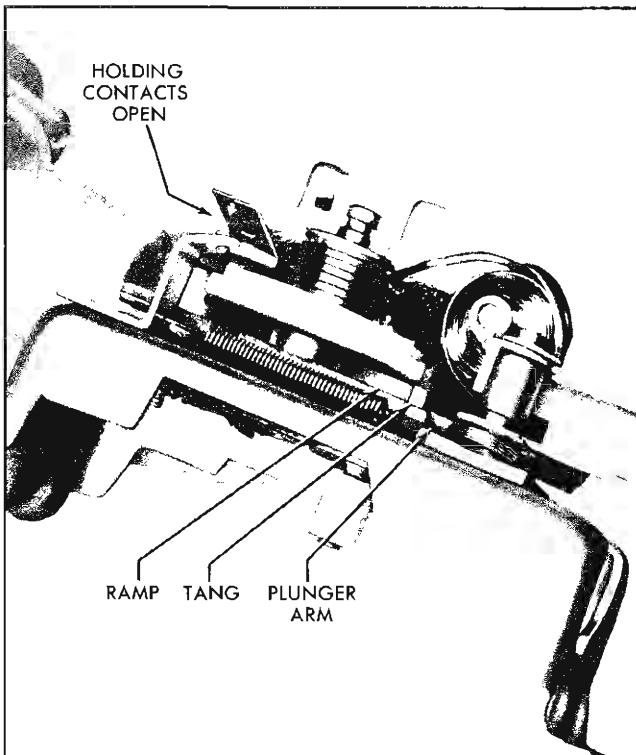
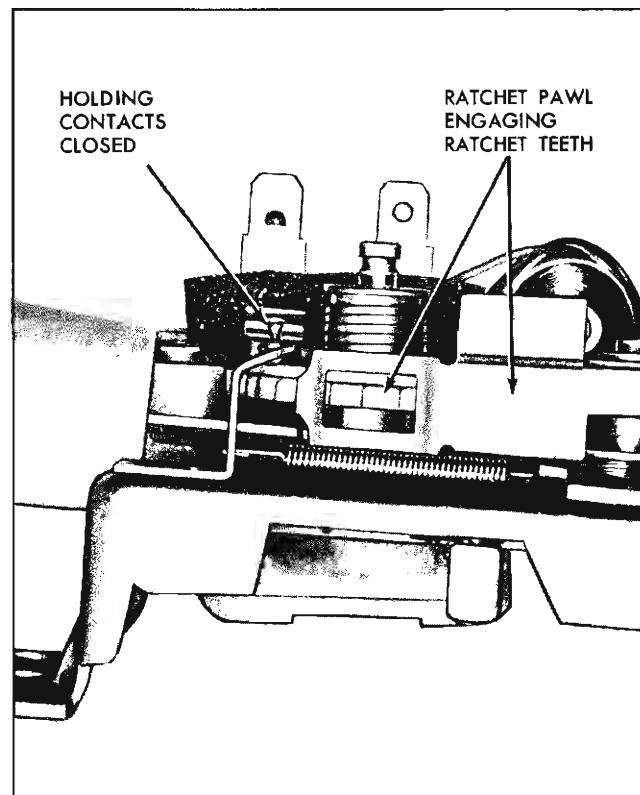

Fig. 11-79 Washer Pump Assembly
Fig. 11-81 Pump Contacts & Ratchet Pawl
The pump is in the "lock-out" position when the relay holding contacts are open and a tang on the plunger arm rests against the widest part of an eccentric ramp located on the lower surface of the ratchet wheel (Fig. 11-79). The tang holds the bellows plunger arm in a retracted position (bellows spring compressed) allowing the plunger arm actuator pin
With the washer relay coil energized, the ratchet pawl, which is normally held away from the ratchet wheel by a spring, is pulled toward the coil pole and engages the ratchet wheel teeth. The ratchet pawl and plate assembly, which moves back and forth continuously when the wiper is on, now starts to rotate the ratchet wheel (Fig. 11-81).
As the ratchet wheel rotates the tang on the bellows plunger arm starts to ride up the eccentric ramp on the lower surface of the ratchet wheel. The full "lock-out" position of the pumping mechanism is reached when the tang is up on the widest part of the ramp (Fig. 11-79). The tang reaches the "lock-out" position at the same time the relay coil holding contacts open.
2. If relay and ratchet pawl perform correctly in Step 1, manually actuate the plate and ratchet pawl assembly to turn the ratchet wheel one tooth. Observe if relay holding contacts close (Fig. 11-81) and the pump plunger arm is released from its "lock-out" position. (Fig. 11-79 shows plunger arm in "lock-out" position.)
4. If pump performs correctly in Step 3, continue to manually actuate the plate and ratchet pawl assembly until the ratchet wheel has been turned through 360° or 21 teeth. After the ratchet wheel has been rotated 21 teeth, the holding contacts should be opened by a "hump" on the wheel and the pump plunger arm should be in the "lock-out" position (Fig. 11-79).